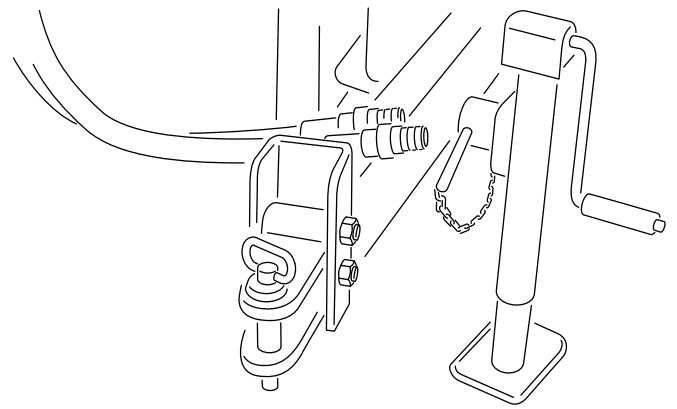

Figure 4
2. Raise front of frame and slide jack onto mounting tube aligning mounting holes in jack with holes in mounting tube. Secure with pin. (Figure 4).